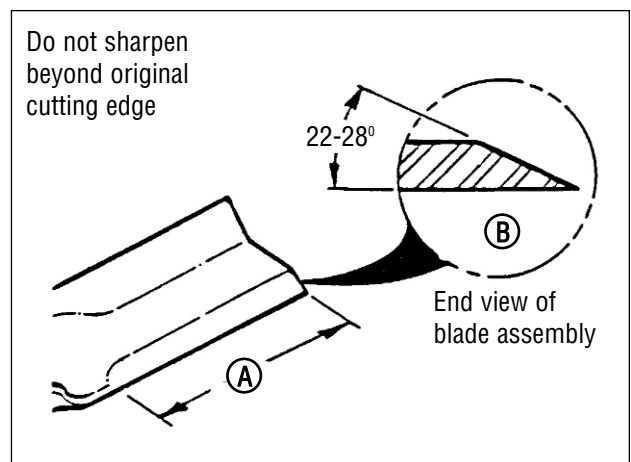

Figure 17: Sharpening the mower blade
4. Sharpen the blade on a grinding wheel at an angle of 22 to 28 degrees (B, Figure 17). DO NOT sharpen the blade beyond the original cutting edge (A).